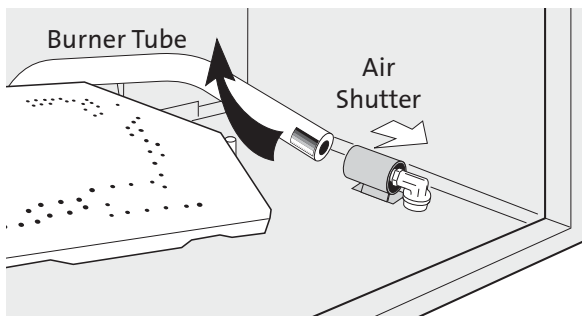

Figure 30. Move shutter forward to disengage the burner tube assembly.
- Lift the rear of the Burner Tube and rotate slightly forward. Slide the tube back enough to disengage it from the Air Shutter and Burner Orifice, then lift out. See fig. 30.